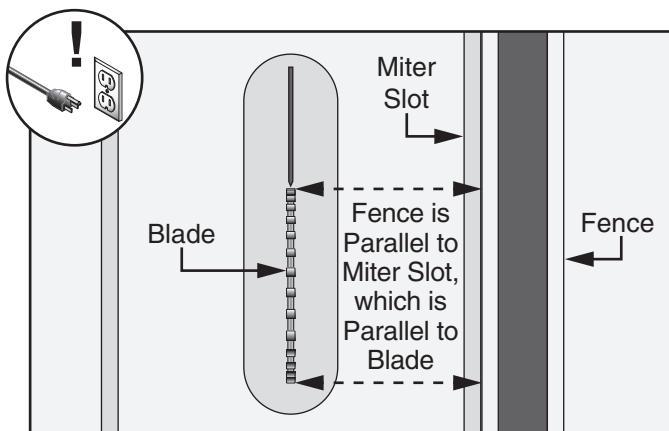

Figure 131. Checking fence parallelism w/blade.
2. Slide fence against right edge of miter slot, lock it in place, then raise blade fully. Using a ruler, examine how fence lines up with miter slot and blade (see **Figure 131**).